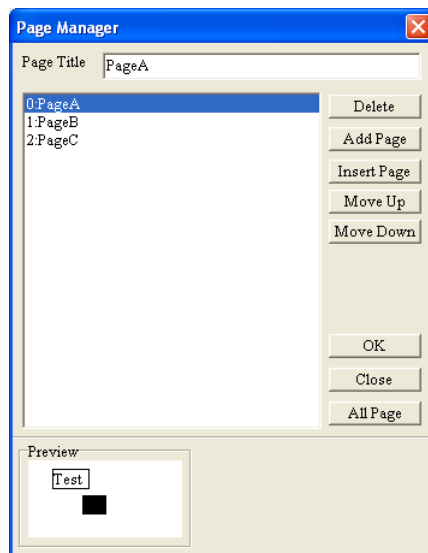

Figure 3-10 **Page Manager** window
- **Page Manager:** Users can preview and manage the pages which are created. After the users click **Page Manager** on the **View** menu, or  on the standard toolbar, the **Page Manager** window will appear, as shown in Figure 3-10. The users can type a title in the **Page Title** box, add pages, delete pages, move up/down pages, and open all the pages which are created.